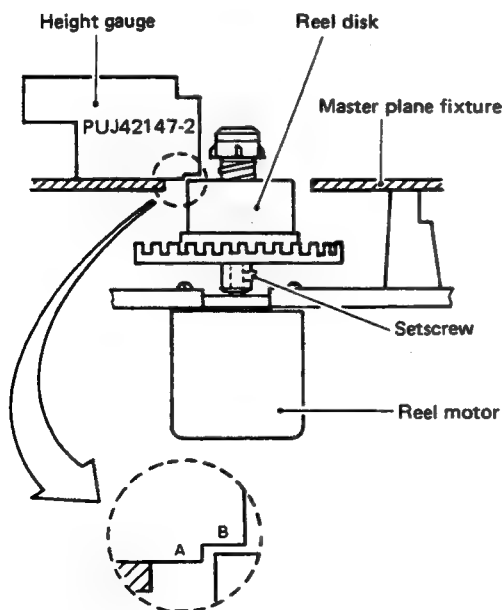

Fig. 2-23 Reel disk height
2. Measure the reel disk height in two perpendicular directions. As shown in Fig. 2-23, confirm position between height gauge planes A and B.